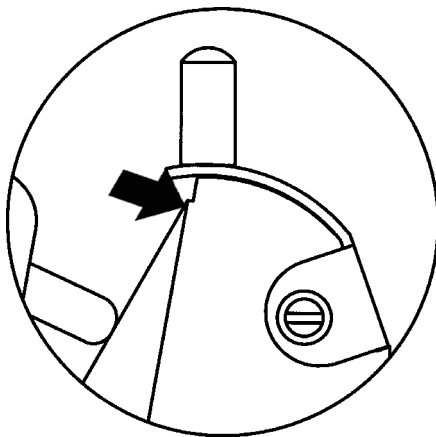

Fig. 48.2
- Turn the knurled wheels (6) in opposite directions to the rear to position the knife edge parallel and at the level of the locating edge (Fig. 48.2) of the rear clamping jaws.
- To clamp the knife (4), tighten the two clamping screws (2) uniformly by turning them clockwise.
Please refer to 12.3.1 Knife holder N (Fig. 48.2).